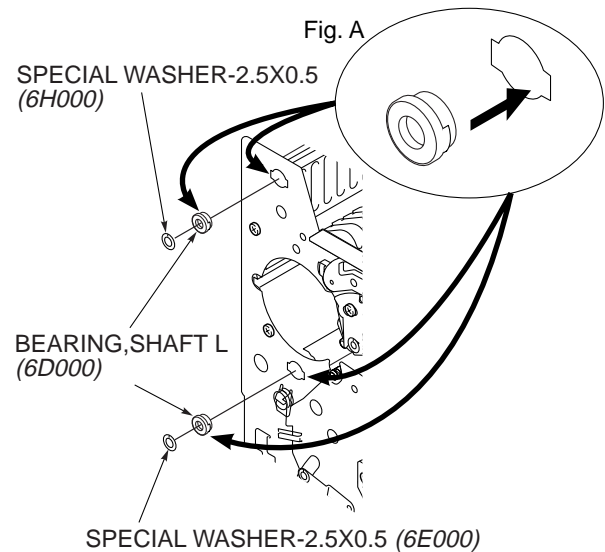
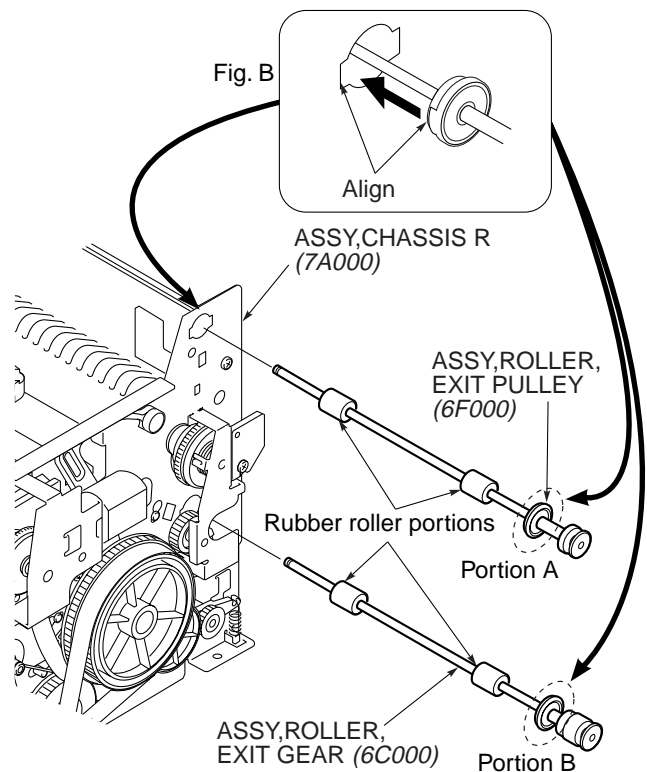

Fig. 3-4-2
Fig. 3-4-3
- 3) Remove the "SPECIAL WASHER-2.5X0.5 (6H000)". (Refer to Fig. 3-4-2.)
- 4) Pull the "ASSY, ROLLER, EXIT PULLEY (6F000)" out as shown in Fig. 3-4-3 and remove the "BEARING, SHAFT L (6D000)" on the upper side as shown in Fig. 3-4-2.
- 5) Remove the "SPECIAL WASHER-2.5X0.5 (6E000)". (Refer to Fig. 3-4-2.)
- 6) Pull the "ASSY, ROLLER, EXIT GEAR (6C000)" out as shown in Fig. 3-4-3 and remove the "BEARING, SHAFT L (6D000)" on the lower side as shown in Fig. 3-4-2.
2. Align portion A on the "ASSY, ROLLER, EXIT PULLEY (6F000)" and portion B on the "ASSY, ROLLER, EXIT GEAR (6C000)" with holes on the "ASSY, CHASSIS R (7A000)" as shown in Fig. B of Fig. 3-4-3.
3. Install the two "BEARING, SHAFT L (6D000)" so that they align with each of the holes on the "ASSY, CHASSIS R (7A000)" as shown in Fig. A of Fig. 3-4-2.